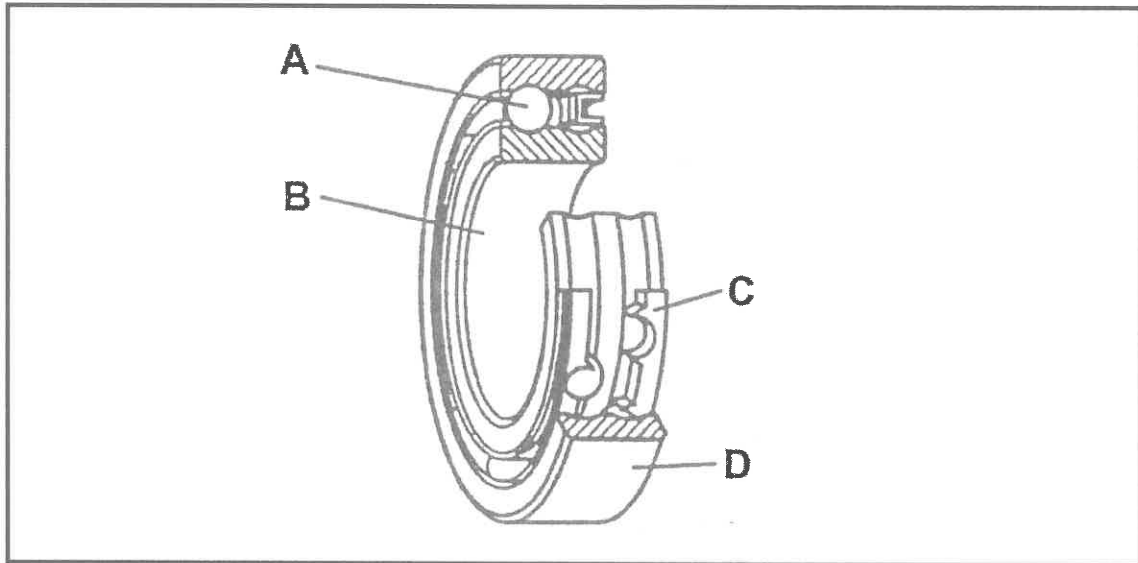

FIGURE 1
- 1.2 Name the components of the bearing shown in FIGURE 1 by writing only the answer next to the letter (A–D) in the ANSWER BOOK.